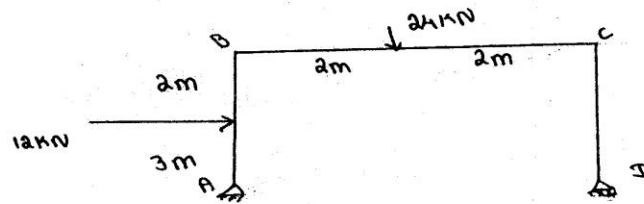

Figure-10
10. Analyse the frame shown in figure-10 by stiffness method. Take  $EI = \text{constant}$ . (15)